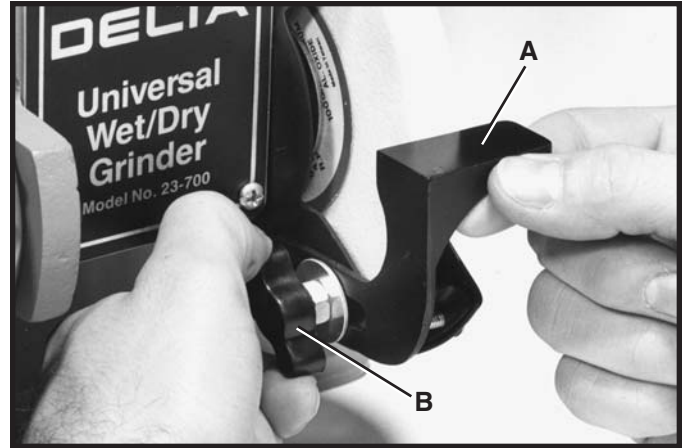

Fig. 6
2. The tool rest (A) Fig. 6, is adjustable so it can be positioned as close to the grinding wheel as possible giving maximum support to the piece that is being ground, by loosening lock knob (B), moving tool rest (A) to the desired position and tightening lock knob (B). As the grinding wheel wears down to a smaller diameter, re-adjust the tool rest closer to the wheel. The tool rest (A) should be adjusted so it is set a little below the center of the wheel. This is the most practical and safest position for general work. Free hand grinding without the use of the tool rest should always be done on the lower quarter of the wheel.